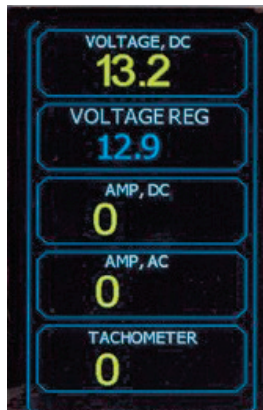

Fig. 12. Display data output when testing an alternator without a voltage regulator F(67)
- **VOLTAGE REG:** indicator of set generation voltage (alternators without a voltage regulator only) (Fig. 12).